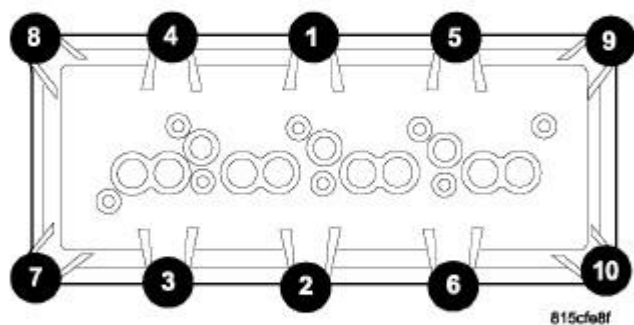

Fig. 77: Cylinder Head Cover Torque Sequence
3. Tighten cylinder head cover bolts and double ended studs to 8 N.m (70 in. lbs.) in the sequence shown in **Fig. 77**.